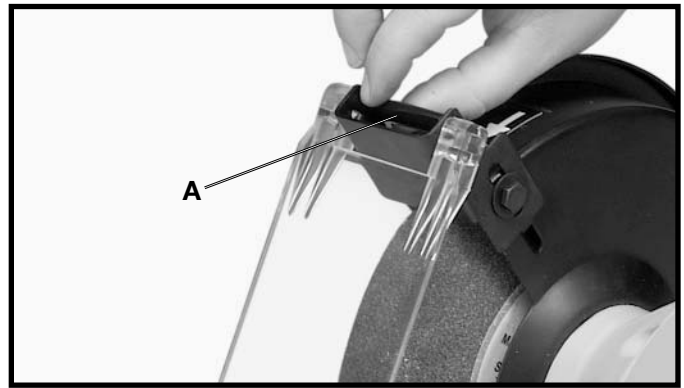

Fig. 7
2. Align the holes in the eye shield with the holes in the spark guard and place the eye shield spacer (A) Fig. 7, in the space in the spark guard as shown.